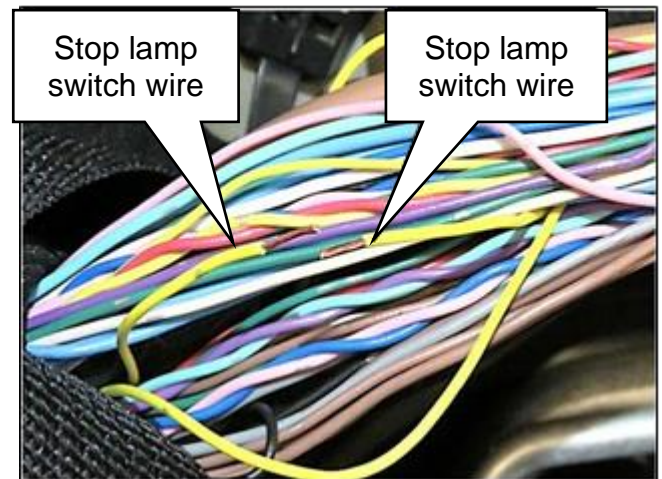

Figure 39
- Approximate location of yellow wire cut shown in Figure 39